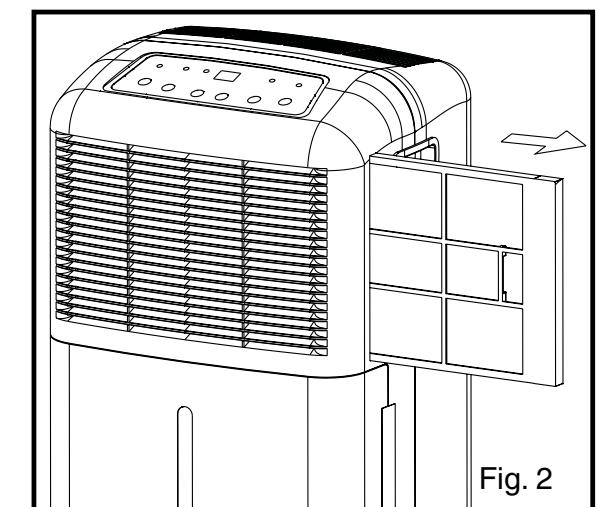

Fig. 2
- Grasp the filter handle, and pull the filter out. The filter will slide out easily. See Fig.2